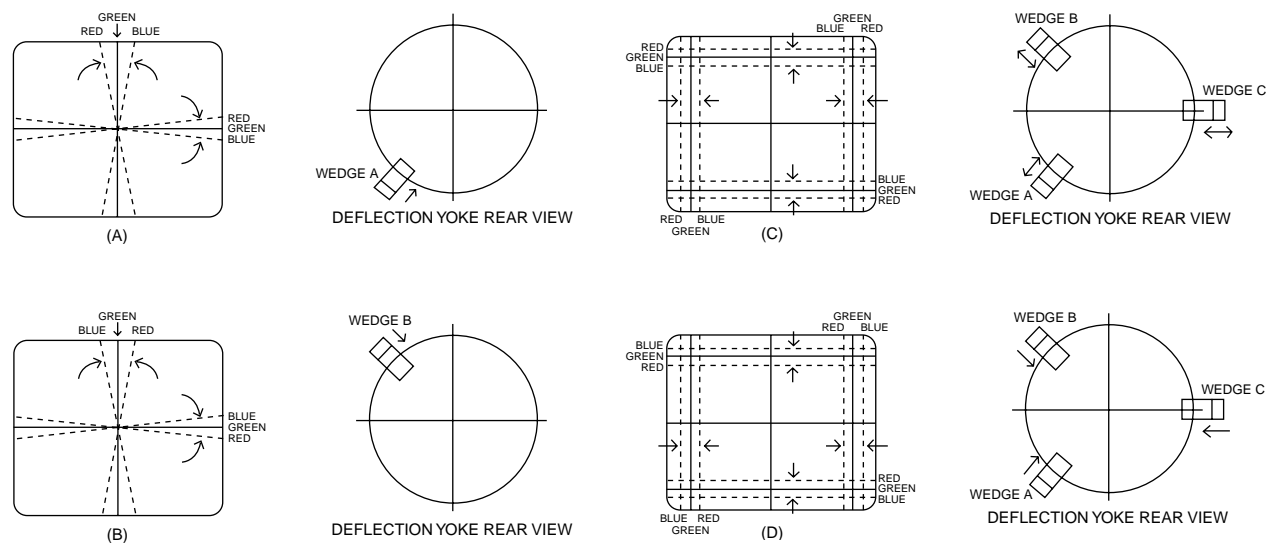

Fig. 5
## DYNAMIC CONVERGENCE ADJUSTMENT ( Refer to Figure 5 )
3. For the misconvergence shown in Figure 5 ( A ), tilt the deflection yoke down and insert wedge A between deflection yoke and CRT.
4. For the misconvergence shown in Figure 5 ( B ), tilt the deflection yoke up and insert wedge B between deflection yoke and CRT.
5. For the misconvergence shown in Figure 5 ( C ), tilt left side of the deflection yoke and slightly insert wedge C between deflection yoke and CRT. Then, deeply insert wedges A and B between deflection yoke and CRT.
6. For the misconvergence shown in Figure 5 ( D ), tilt right side of the deflection yoke and deeply insert wedge C between deflection yoke and CRT. Then, slightly insert and/or extract wedges A and B between deflection yoke and CRT.